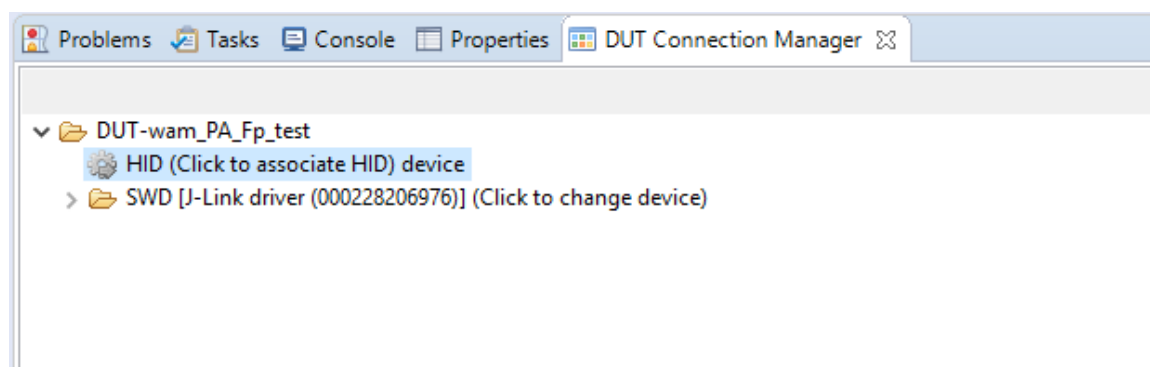

Figure 19: DUT Connection Manager View (for HID)
9. Now, Cola is disabled by default. In order to enable it, connect to the HID Interface by clicking on "DUT Connection Manager" tab and then click on "HID" (see Figure 19).